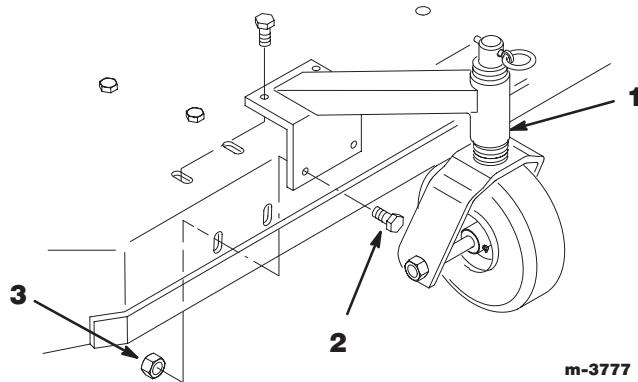

Figure 2
- Align casters with holes on top and front of mower and insert 8 bolts (3/8 x 3/4 inch) through mower. Secure with 8 flange nuts (3/8 inch) below mower (Fig. 2).